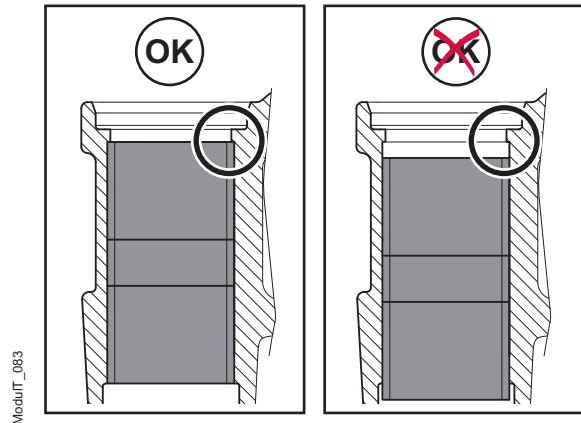

Figure 60. Leading side bearings installed OK/NOK
4. Stop once the bearings are seated in their correct position up to the inside lip of the bearing location surface, see figure 60.